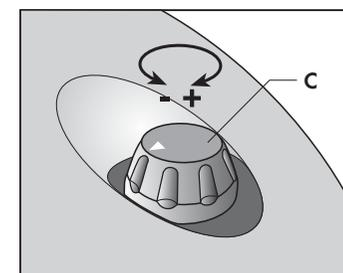

Fig. 7
- Press the main luminous switch (B).
- To regulate suction, turn the knob (C). Turn anti-clockwise for powerful suction and clockwise for reduced suction (Fig. 7).